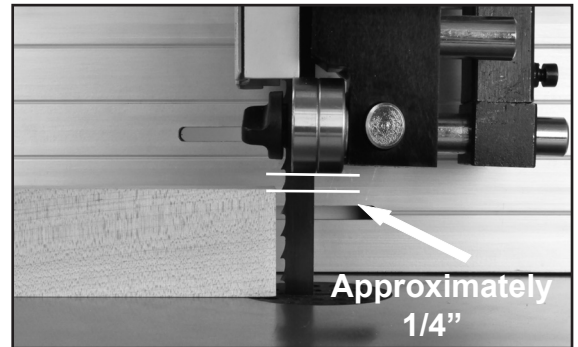

Figure 24
**Note:** The bottom edge of the guides should be approximately 1/4" above the top surface of the work piece. (Fig.24)
Check that the fence is 90 degrees to the table using a suitable square. If adjustments are required, raise or lower either side of the fence's Guide Rail until the fence body is 90 degree to the table. Once set at 90 degrees, fully tighten the fence bar nuts. FIG. 24.